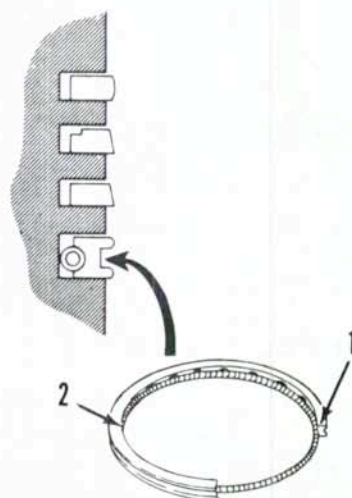

Fig. 82 - Cross section showing correct installation of piston rings for 1100, 1110, 1200 and 1300 models.
Refer to appropriate Fig. 82, 83, 84 or 85 for installation of piston rings. If the expander for oil control ring uses a Teflon tube at end joint, tube and joint should be positioned at end gap of ring. If oil ring expander does not have Teflon tube, joint of expander (2) should be positioned opposite (180°) from ring gap. Top mark (1) on rings must be toward top of piston. Stagger ring end gaps approximately 90° from each other. Do not position a ring gap over piston pin bore. Lubricate cylinder bore and rings before installing piston and rod assemblies.